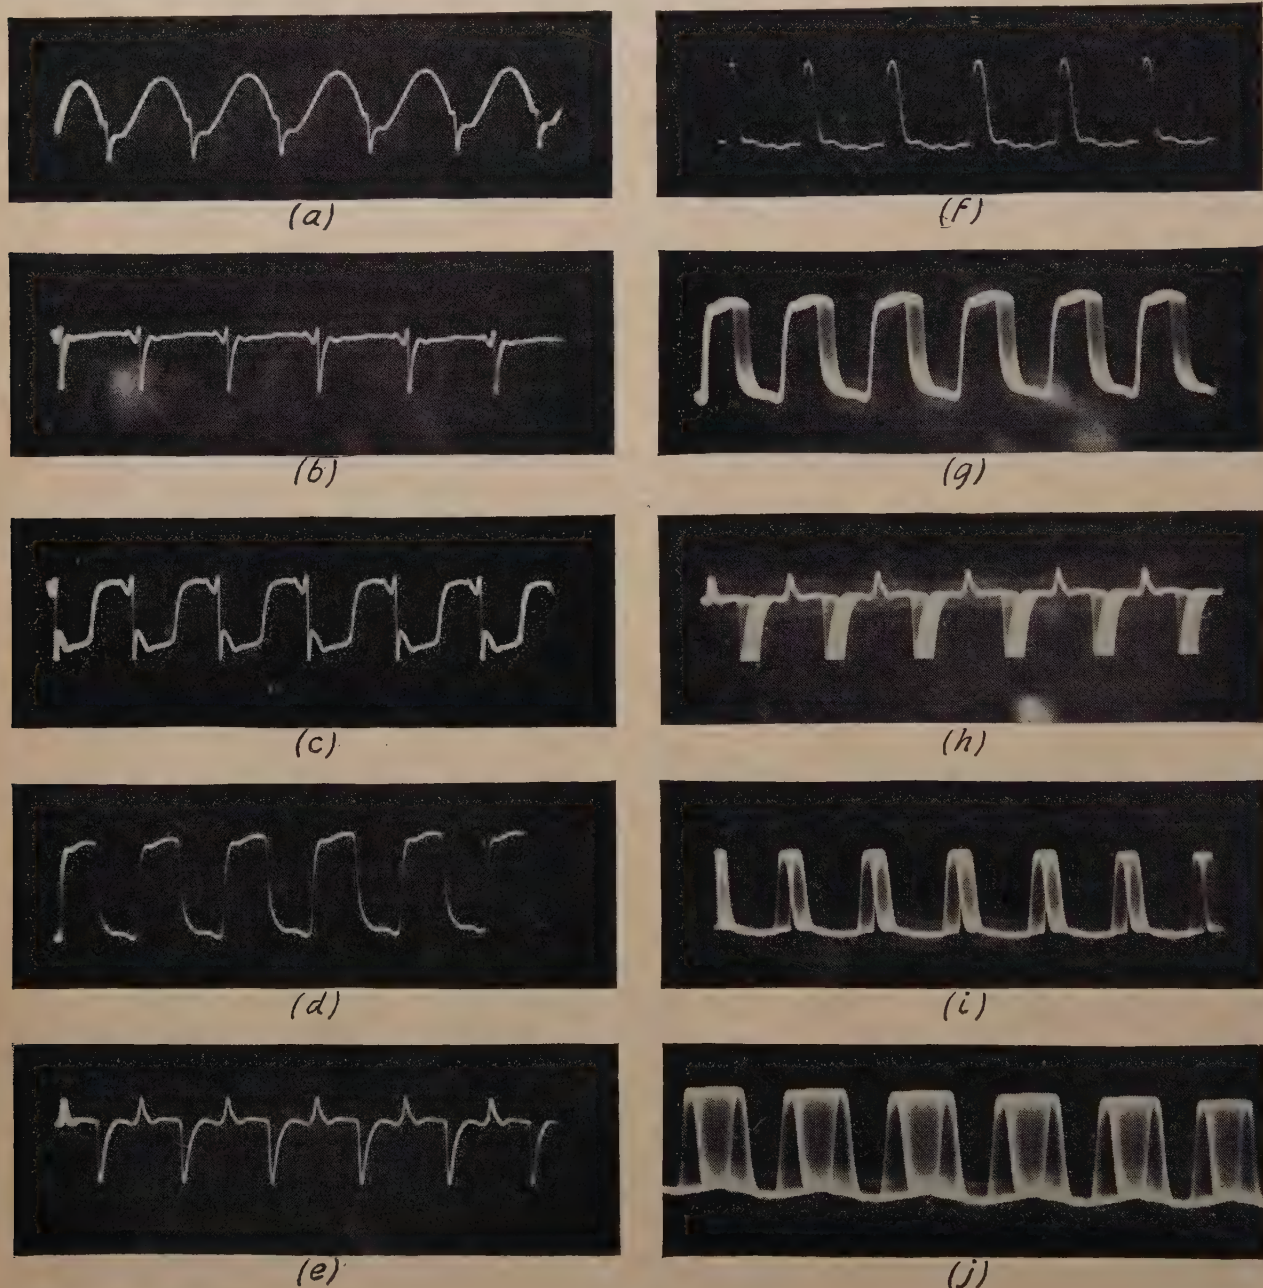

Fig. 18—Oscillograms taken from the transmitter shown in Fig. 15.
The positive pips will remain stationary during the application of a modulating voltage to the grid of V_2 . (See Fig. 18(h).) The negative pips will change position.
By clipping the positive pulses and inverting and amplifying the negative pulses, a series of positive pulses which are suitable to drive a class C amplifier is obtained (see Fig. 18(f)). (This is a form of pulse-position modulation which forms the basis of a forthcoming paper).
- (g) Same as Fig. 18(d) but with modulation applied.
- (h) Same as Fig. 18(e) but with modulation applied.
- (i) Same as Fig. 18(f) but with modulation applied.
- (j) Same as Fig. 18(f) but with wide modulation swing of approximately 200 degrees.
Fig. 18 includes oscillograms of the multivibrator grid and plate conditions. Fig. 18(c) particularly shows the relationship between the synchronizing pulse amplitude and the amplitude of the multivibrator grid voltage.